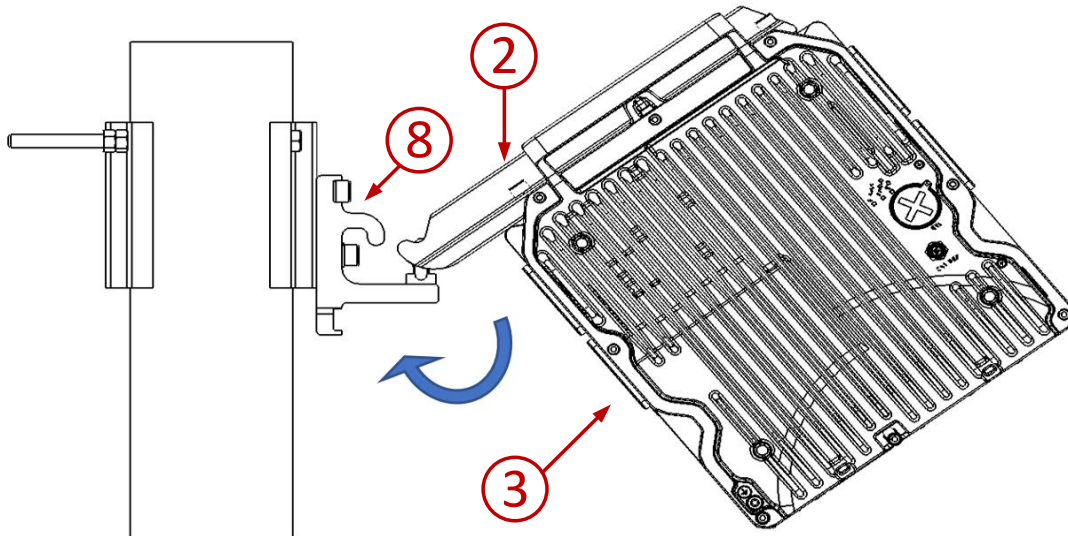
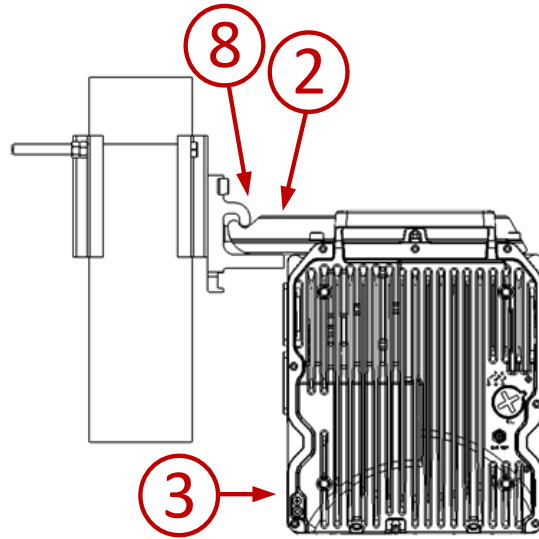

Figure 52: Angling the OCU Rail Underneath the Nose of the Branching Pole Profile
Figure 53: Final Position of OCU-Radio Locked into Branching Pole Profile
Once the OCU and radio unit have been connected, mount the complete OCU-radio unit to the Branching Pole Profile, as shown in *Figure 52* and *Figure 53*.
- 1 Angle the nose of the OCU Rail so as to hook underneath the nose of the Branching Pole Profile (*Figure 52*).
- 2 Level the OCU-radio unit so that the nose of the OCU Rail is locked underneath and inside of the nose of the Branching Pole Profile (Figure 53).